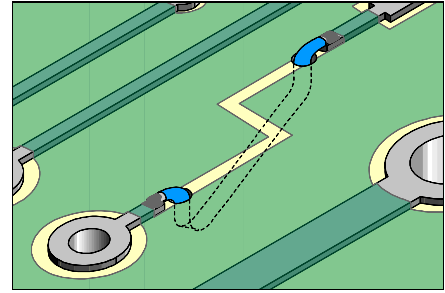

Figure 4: Lap solder the wire to the circuits on the PC board surface.
14. Lap solder the wire to the circuits on the PC board surface. Make sure the wire is properly aligned. (See Figure 4).